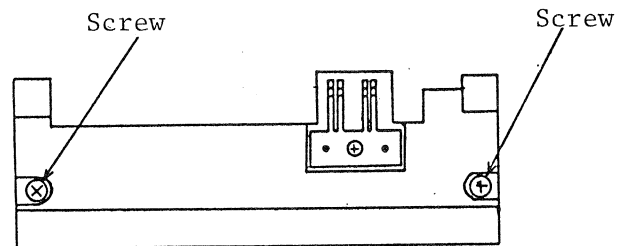

Fig. 6
- 2.3 Remove the two screws (Fig. 6) to remove the flash tube and associated parts.